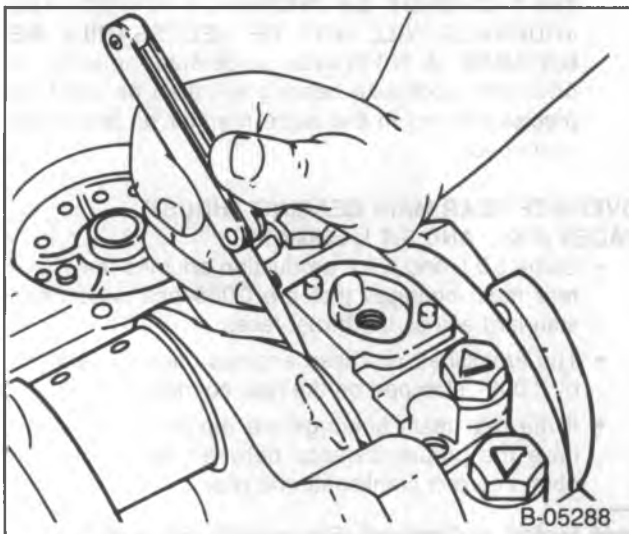

Figure 55—Measuring Crankshaft End Play
📏 Measure (Figure 55)
2. With the crankshaft forced forward, measure at the front end of the rear main bearing with a feeler gage (figure 55). The proper clearance is 0.002–0.006-inch (5.0L and 5.7L engines), 0.006–0.010-inch (7.4L engines).